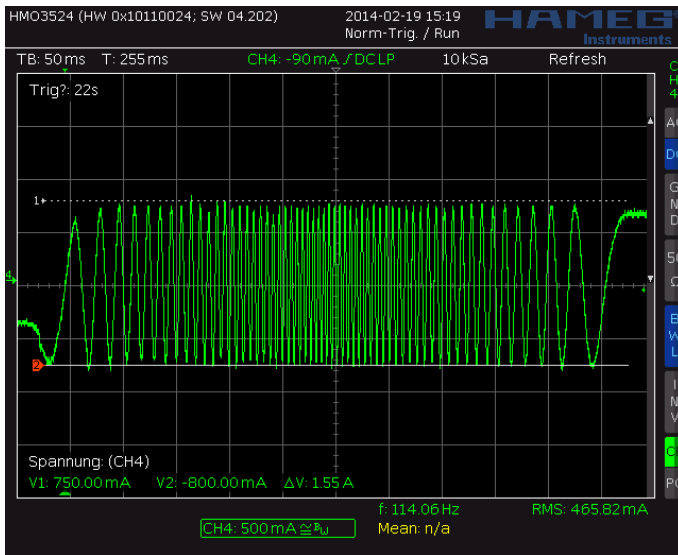
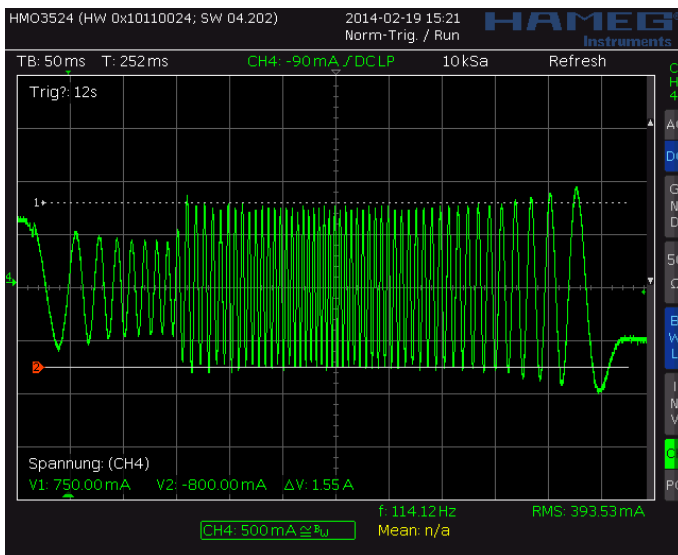
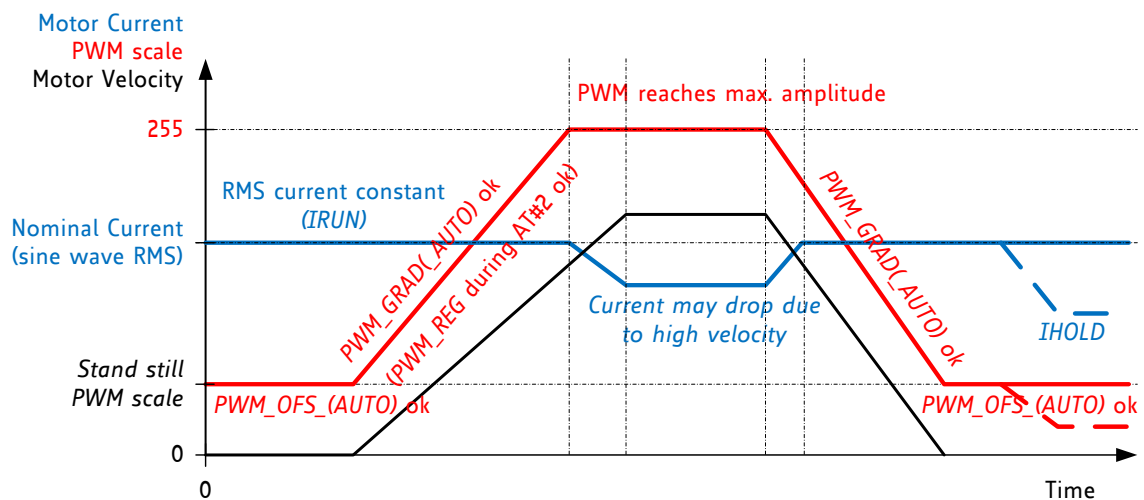

Figure 6.3 Scope shot: good setting for PWM\_REG
Figure 6.4 Scope shot: too small setting for PWM\_REG during AT#2
Figure 6.5 Successfully determined PWM\_GRAD(AUTO) and PWM\_OFS(AUTO)
In StealthChop voltage PWM mode, the autoscaling function ( $pwm\_autoscale = 1$ ,  $pwm\_auto\_grad = 1$ ) regulates the motor current to the desired current setting. Automatic scaling is used as part of the automatic tuning process (AT), and for subsequent tracking of changes within the motor parameters. The driver measures the motor current during the chopper on time and uses a proportional regulator to regulate  $PWM\_SCALE\_AUTO$  in order match the motor current to the target current.  $PWM\_REG$  is the proportionality coefficient for this regulator. Basically, the proportionality coefficient should be as small as possible in order to get a stable and soft regulation behavior, but it must be large enough to allow the driver to quickly react to changes caused by variation of the motor target current (e.g. change of  $VREF$ ). During initial tuning step AT#2,  $PWM\_REG$  also compensates for the change of motor velocity. Therefore, a high acceleration during AT#2 will require a higher setting of  $PWM\_REG$ . With careful selection of homing velocity and acceleration, a minimum setting of the regulation gradient often is sufficient ( $PWM\_REG=1$ ).  $PWM\_REG$  setting should be optimized for the fastest required acceleration and deceleration ramp (compare Figure 6.3 and Figure 6.4). The quality of the setting  $PWM\_REG$  in phase AT#2 and the finished automatic tuning procedure (or non-automatic settings for  $PWM\_OFS$  and  $PWM\_GRAD$ ) can be examined when monitoring motor current during an acceleration phase Figure 6.5.